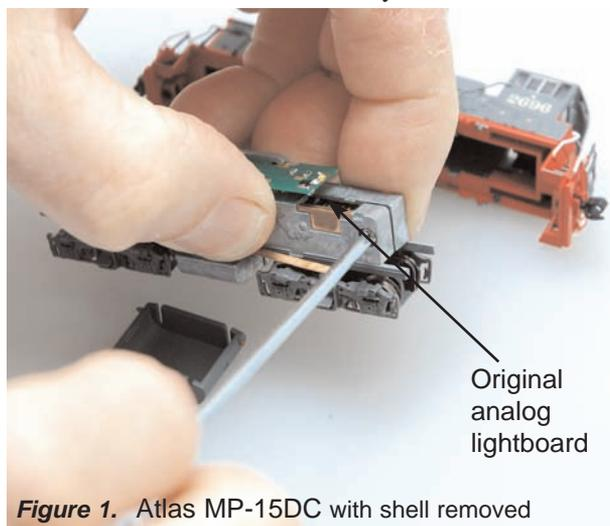

Figure 1. Atlas MP-15DC with shell removed
1. Carefully remove the locomotive's shell from the frame (*Figure 1*)
(*Figure 1*)
000/x00 for **OFF**. To turn **ON** transponding, program CV61 to a value of 002/x02. This allows you to use Digitrax transponding to keep track of your rolling stock. When transponding is enabled, the front light of the locomotive will flicker slightly to indicate transponding signal is being communicated. For optimal transponding operation, we recommend that you hook up the forward and rear lights as shown in the wiring diagram (*Figure 1*).